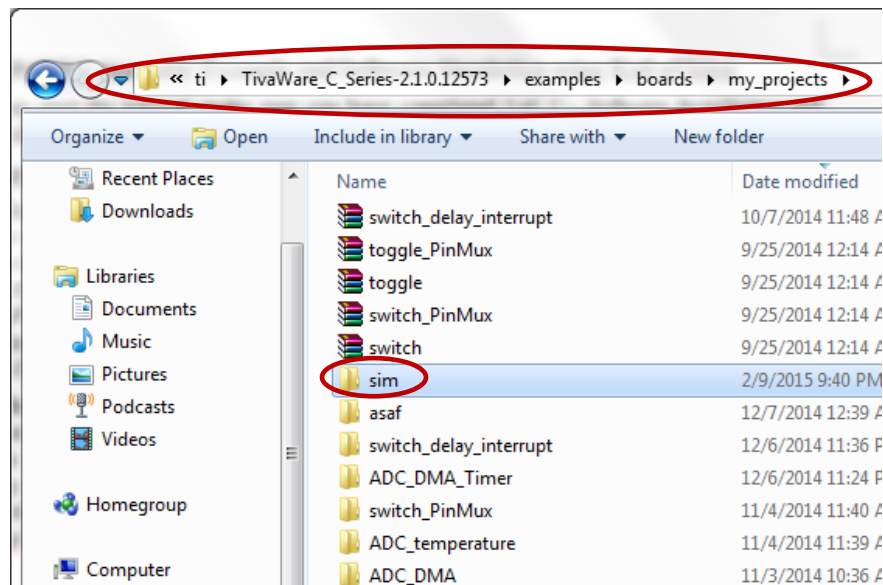

Figure 1
1. Download the project *sim.zip* from Canvas->Labs->Lab2->sim. This is a sample project that calculates the sum, difference, and absolute difference of two 32-bit signed numbers NUM1 and NUM2 and then stores the results in memory. It is assumed that you already install the TivaWare library in C:\ti\TivaWare_C_Series-2.x.x.xxxxx. First create a new directory “my_projects” under C:\ti\TivaWare_C_Series-2.x.x.xxxxx\examples\boards and then save and uncompress the sample project *sim.zip* under “C:\ti\TivaWare_C_Series-2.x.x.xxxxx\examples\boards\my_projects” as shown in Figure 1.